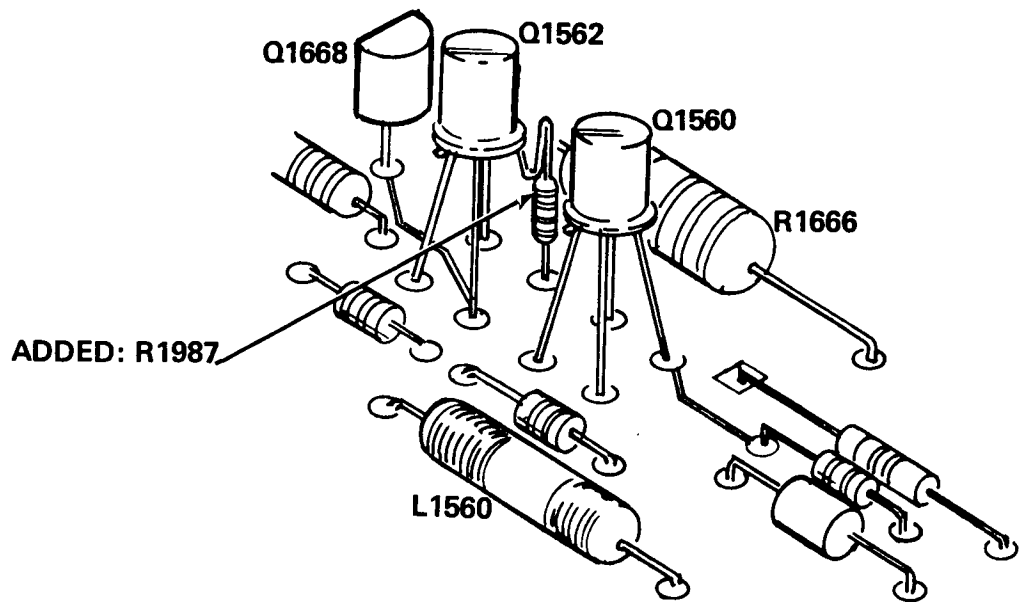

Figure 7. - R1987 and Q1562 configuration.
- () 9. Unsolder the collector of Q1562 transistor, from the circuit board pad, located nearest to R1666. Solder one lead of R1987, pn 313-1201-00, to the collector lead of Q1562 and solder the remaining lead to the circuit board pad from which the collector was removed, refer to Figure 7.